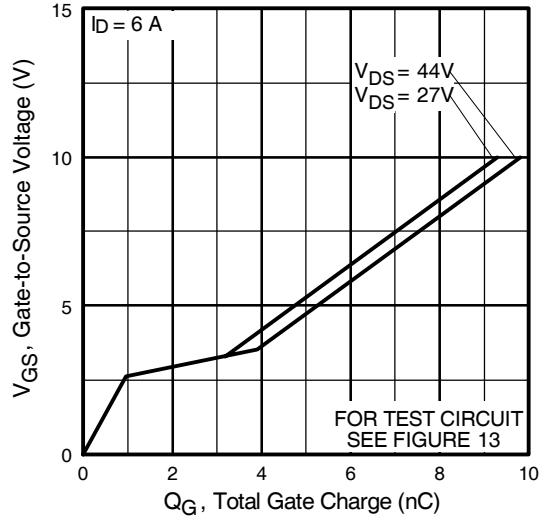

Fig 6. Typical Gate Charge Vs. Gate-to-Source Voltage
| Q_{gd} | Gate-to-Drain ("Miller") Charge | — | — | 4.4 | | $V_{GS} = 5.0V$, See Fig. 6 and 13 ④ |